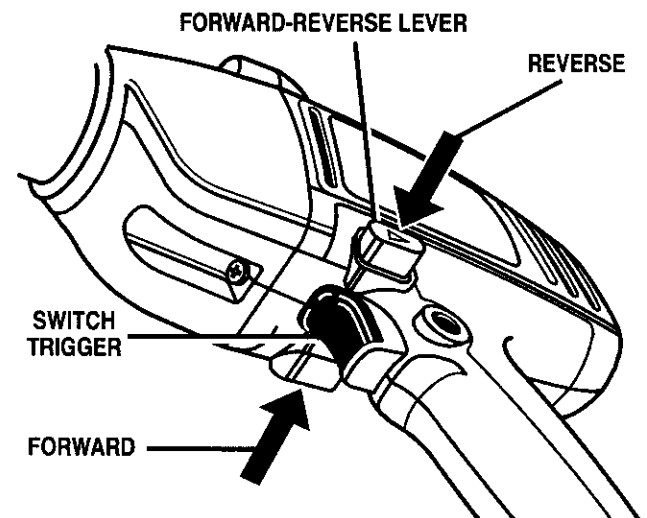

Fig. 3
See Figure 3.
- Check the direction of rotation lever for correct setting (forward or reverse). See Figure 3.